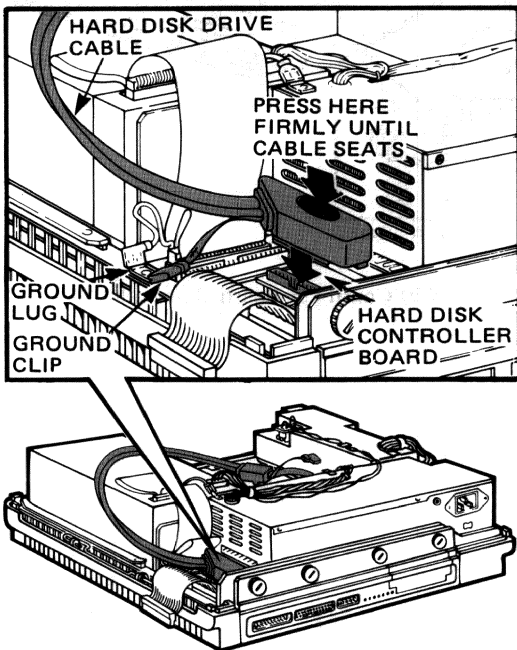

Figure 5-8 Installing Hard Disk Cable
9. If present, plug the hard disk drive cable into the hard disk controller board (Figure 5-8).